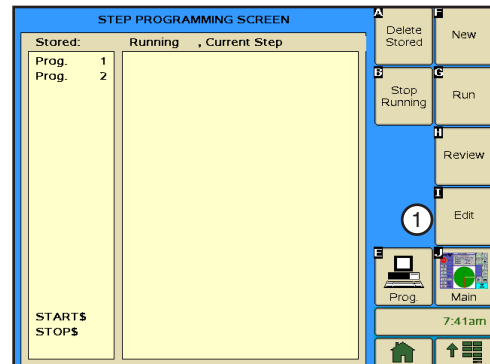

Figure 118-1 1. Edit Button
1. Push **Prog.** and **Step Prog.** to view the Step Program screen. Refer to Figure 118-1.